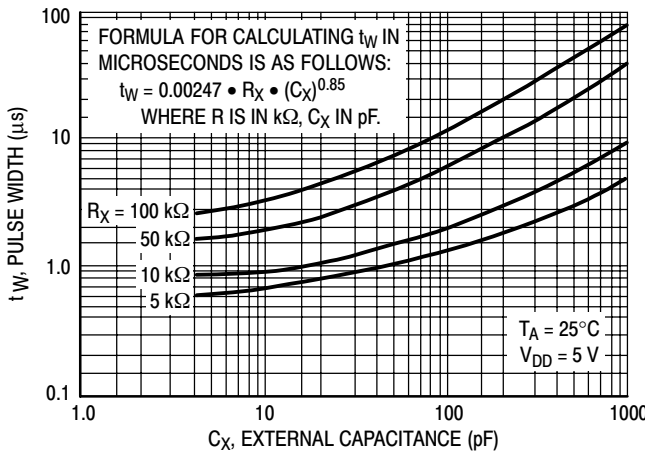

Figure 5. Typical  $C_X$  versus Pulse Width @  $V_{DD} = 5.0 V$
**MONO–IN (Pin 15)** – Used as the timing pin for the on–chip monostable multivibrator. If the Mono–In input is connected to VSS, the monostable circuit is disabled, and Decode Out is directly connected to the selected Q output. The monostable circuit is enabled if a resistor is connected between Mono–In and VDD. This resistor and the device’s internal capacitance will determine the minimum output pulse widths. With the addition of an external capacitor to VSS, the pulse width range may be extended. For reliable operation the resistor value should be limited to the range of 5 kΩ to 100 kΩ and the capacitor value should be limited to a maximum of 1000 pf. (See figures 5, 6, 7, and 12).